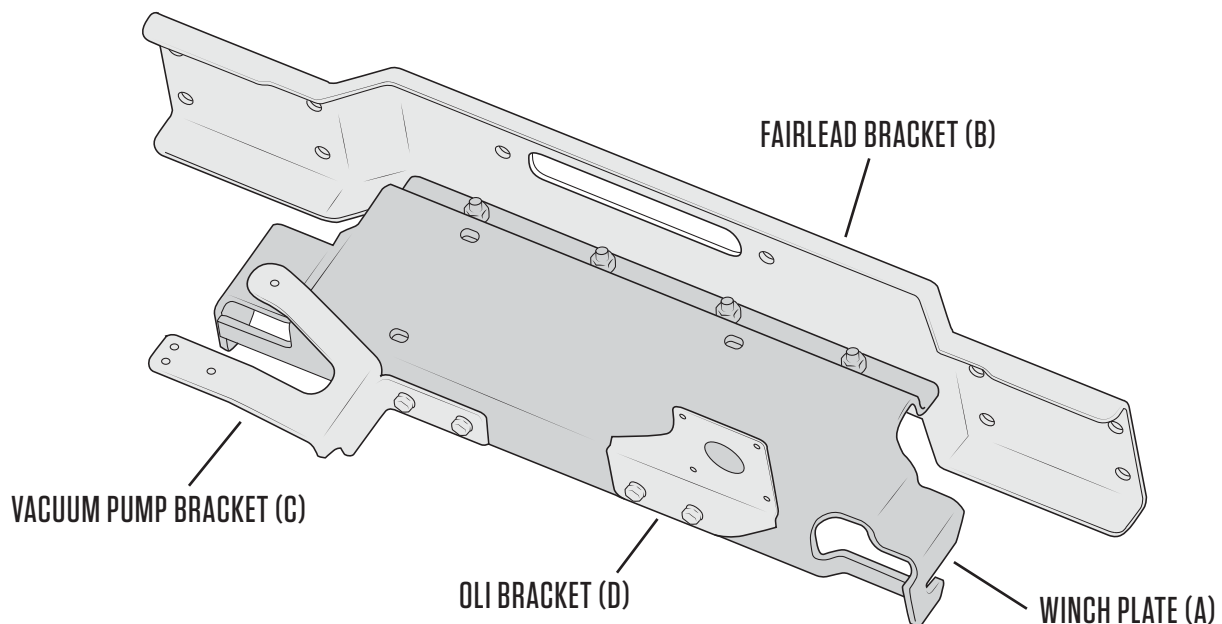

Figure 1
1. Assemble the Winch Plate (A) and Fairlead Bracket (B) Together. Use the four (4) M10 Hex Head Bolts, Washers and Nuts (Fig. 1). Torque (34 ft-#/44 N-m). 15mm and 17mm Tools.
2. Install the vacuum pump bracket (C) to the winch mount (Fig. 1) with Two (2) M8 Bolts, Nuts, and Washers – Torque (16 ft-#/22 N-m). 13mm Tools.
3. Install the OLI bracket (D) to the Winch Mount (As Shown) with two (2) M8 bolts, Nuts, and Washers – Torque (16 ft-#/22 N-m). 13mm Tools. **NOTE: this Bracket is ONLY REQUIRED to be installed, if installing MOPAR Winch Kit #82213746.**